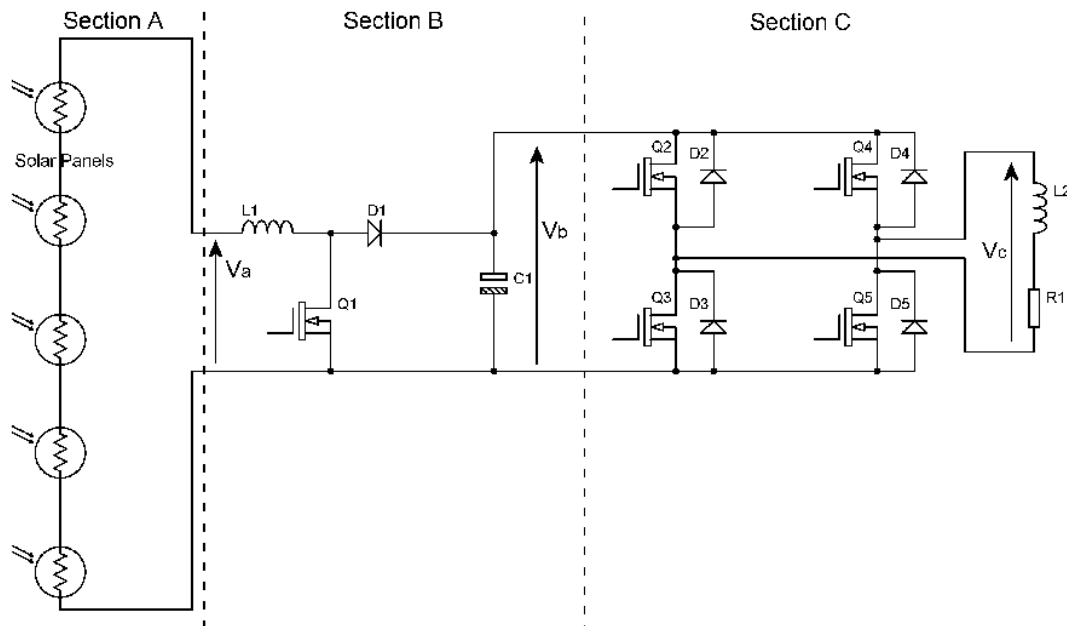

Figure 1 – Standalone solar power supply.
1. a. The circuit diagram of a standalone solar power supply shown in figure 1 is divided into 3 sections, A, B & C by the vertical dotted lines. Explain with the aid of circuit diagrams, and voltage and current waveforms, the operation of the dc-dc converter circuit contained in section B. (8)
- b. If the total voltage output,  $V_a$ , of the solar panels in section A of figure 1 varies between 90V and 250V, and the voltage output,  $V_b$ , of section B needs to be 400V and supply between 0.1A and 6A, find the values of the inductor and capacitor in the converter ( $L_1$  and  $C_1$ ), and suggest ratings for the switch and diode in the converter ( $Q_1$  and  $D_1$ ). Assume the converter operates at 50kHz and the output voltage of section B should have less than a 5% ripple. (8)
- c. Highlight and explain the key features of components  $D_1$  and  $C_1$  in the converter circuit. (4)
2. a. The circuit diagram of a standalone solar power supply shown in figure 1 is divided into 3 sections, A, B & C by the vertical dotted lines. Explain with the aid of circuit diagrams, and voltage and current waveforms, the operation of the circuit contained in section C when operating with a quasi square wave output. (8)
- b. Given that the load resistor,  $R1 = 40\Omega$ , and the load inductor,  $L2 = 0$  in figure 1, calculate the total loss in the semiconductor devices in section C of figure 1. Also calculate the size of the heatsink required to maintain the devices below  $80^\circ\text{C}$  in an ambient temperature of  $20^\circ\text{C}$  if all of the semiconductor devices on section C of figure 1 were mounted on the same heatsink. Assume that the input voltage to section C is 400V dc, and the circuit is giving a square wave output across the load with a 50% duty cycle. The device ratings are given at the end of the question. (6)
- c. Show how pulse width modulation (PWM) may be used to give an output voltage which is a closer approximation to a sine wave when driving an inductive load. (6)